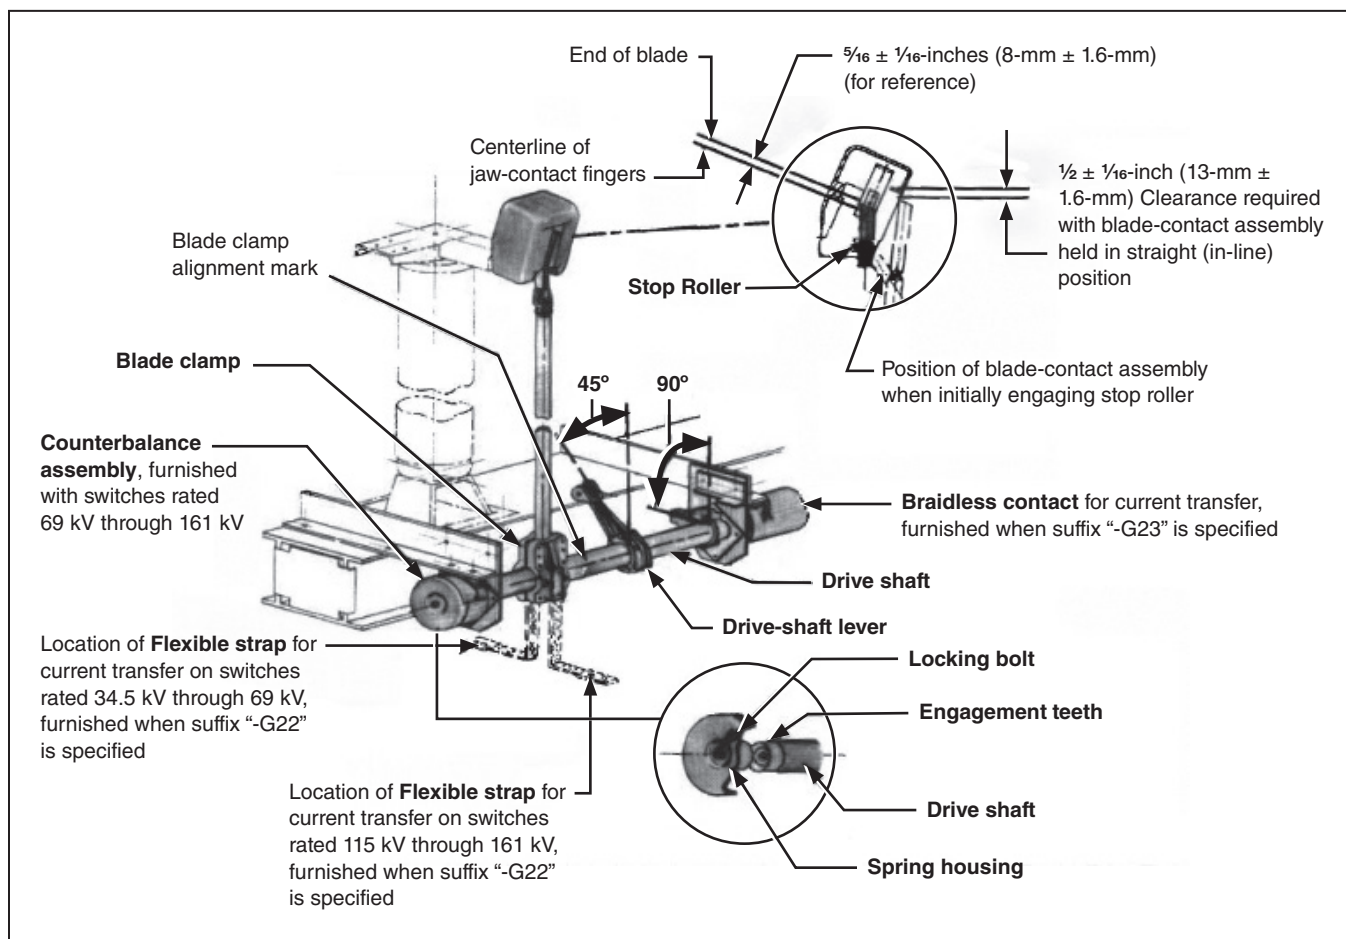

Figure 1. Pole-unit in Closed position.
STEP 1. Insert each grounding switch blade assembly into its blade clamp, oriented as shown in Figure 1. Do not completely tighten the clamp bolts until the blade has been adjusted as described below. (Circuit-switchers rated 34.5 kV and 46 kV are shipped with the grounding switch blades already installed. However, the blades should be checked for proper positioning and adjusted if necessary. For this reason the piercing set screws on the blade clamps have been left loose.)
Position each blade assembly in its clamp so, with the spring-loaded blade-contact assembly held in the straight (in-line) position, it enters the jaw contact with a 1/2-inch (13-mm) clearance between the end of the blade-contact assembly and the jaw-contact housing. See Figure 1 on page 7. At the same time, rotate the blade in the blade damp until the sides of the blade-contact assembly are parallel to the jaw-contact fingers. Then tighten the blade clamp bolts equally so the clamp pulls down evenly.
In the unlikely event readjustment is required, close the blade to reduce the spring load. Mark the position of the spring housing then loosen the locking bolt at the end of the counterbalance assembly. See Figure 1 on page 7. Rotate the spring housing in the blade-closing direction to increase the spring loading, or in the blade-opening direction to decrease the spring loading. Re-tighten the locking bolt at the end of the counterbalance assembly.